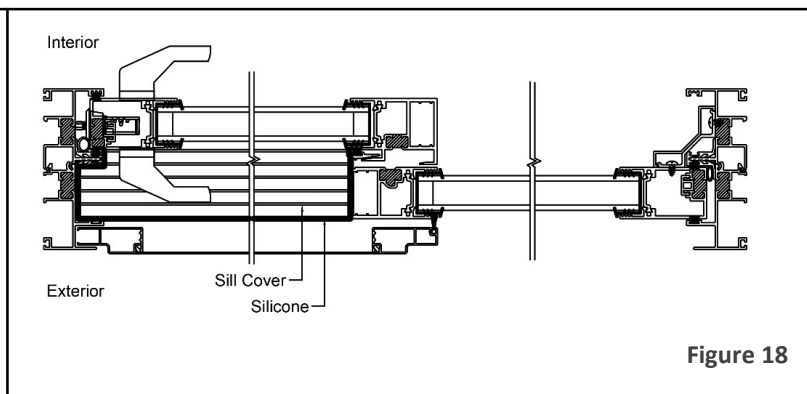

Figure 18
4.4 Apply clear silicone on the exterior face of the sill cover, and on the ends towards the jamb and fixed panel (figure 18).